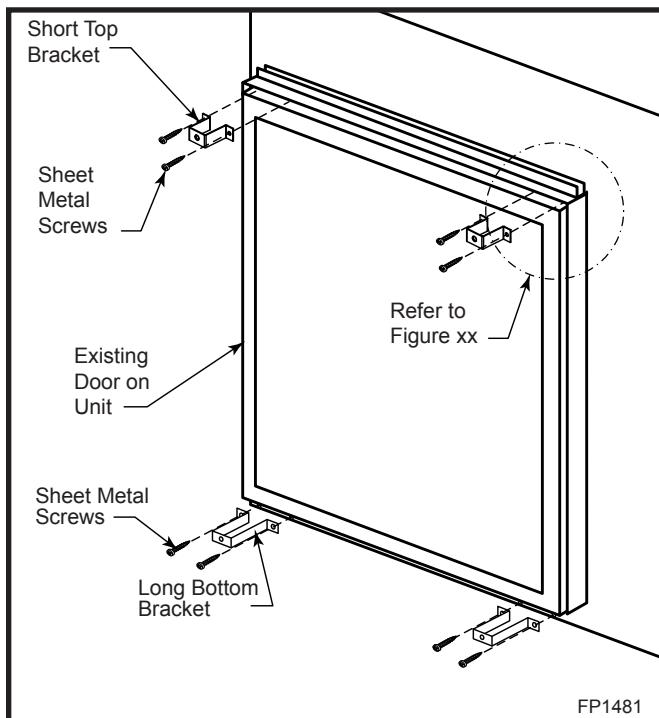

Fig. 27 Use sheet metal screws to attach brackets to existing holes under glass frame assembly.
- Install the two (2) bottom (longer) brackets, using sheet metal screws, at the bottom right and left corners of the unit. (Fig. 27)
3. Install the two (2) short brackets, using sheet metal screws, at the top right and left corners of the fireplace window frame. (Fig. 27) **NOTE:** If top corners of the window frame do not have two (2) pre-drilled holes, you must drill these holes per Step 4.